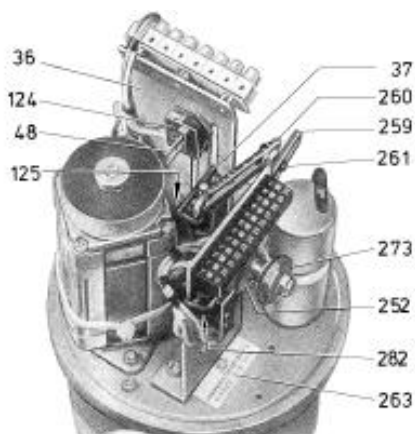

Figure A1: Position of WE-switches
- Move linear actuator into end position of “driving rod being moved out” by manual operation, until the DE-switch S1 switches; the adjusting lever [260] (see figure A1) and the tappet lever [259] must be parallel in their inclined position
The self-locking nut [281] must not be regulated. The tripping cams are sluggish during the regulation. It is recommendable to seize hold of the toothed wheel with the tappet lever [259] (see figure A1) when turning the tripping cams. On principle it must be observed that the tripping cams [252] always actuate the WE-switches S4 and S5 [282] only from the side of the operating lever suspension.